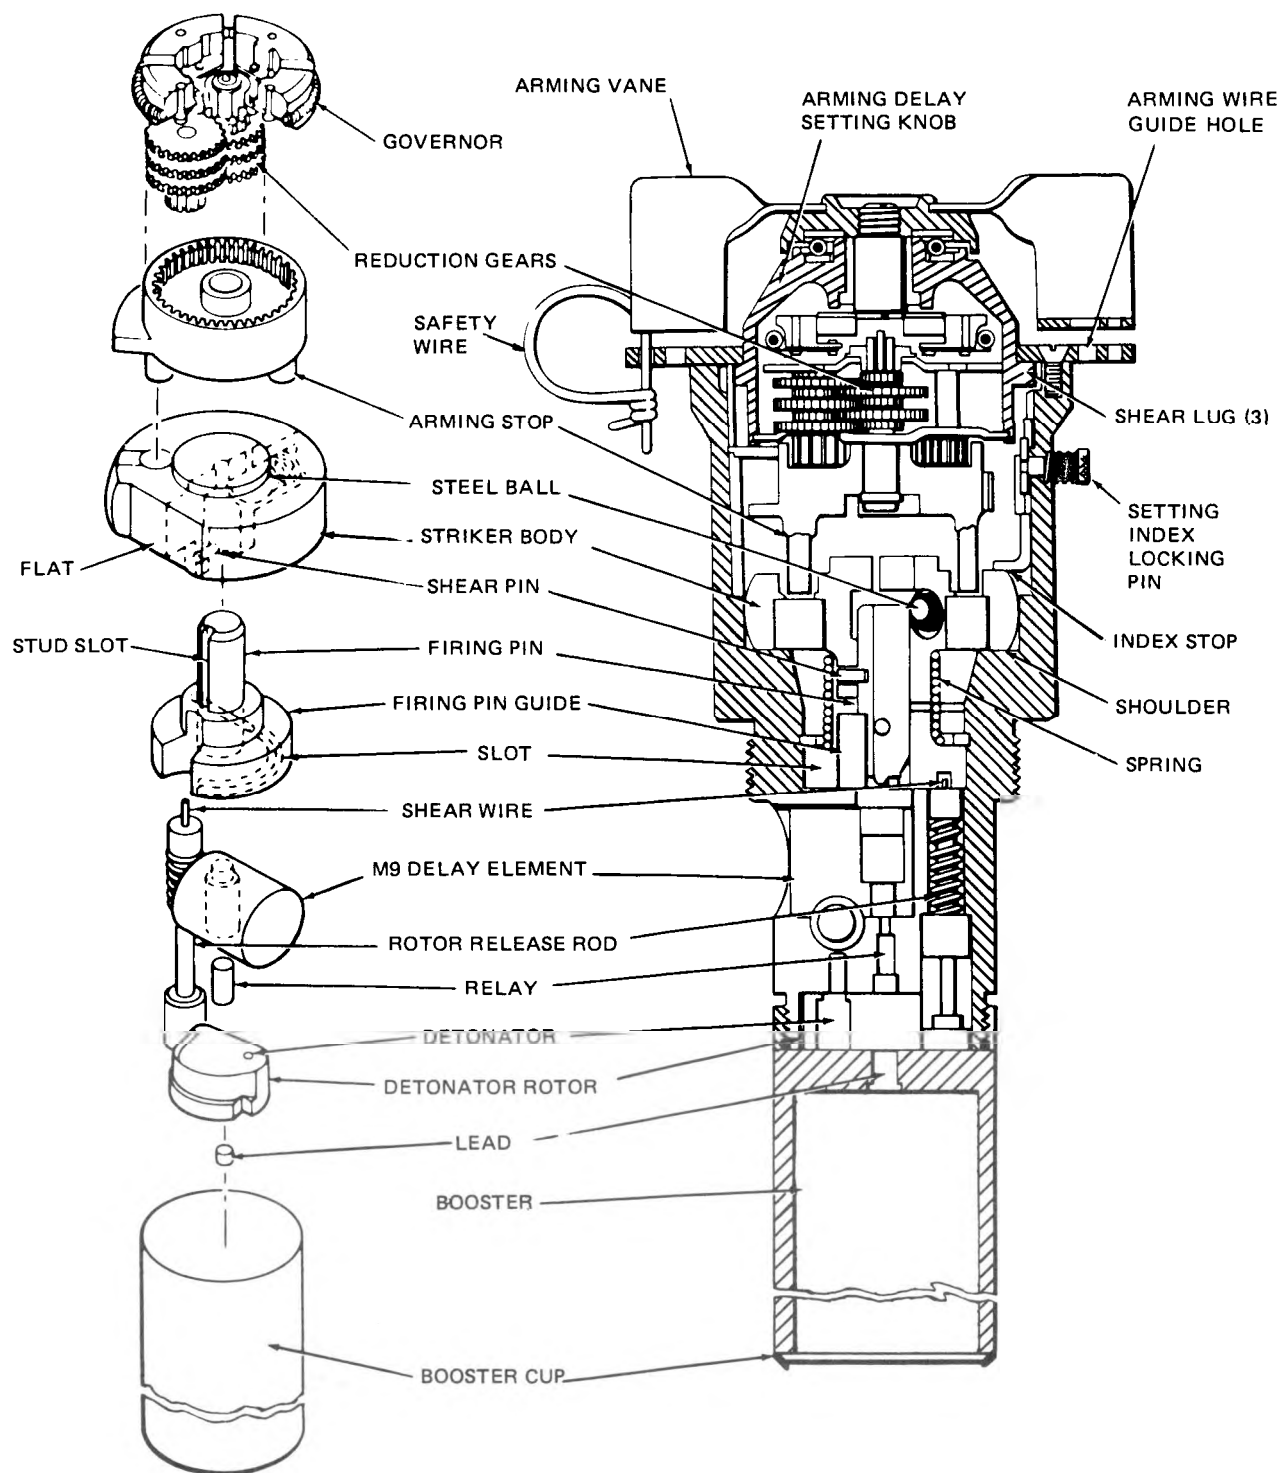

Figure 7-11. Mechanical Nose Fuze M904 Series — Exploded and Cutaway Views
7-68. The arming delay is determined by the amount of rotation required before the striker body aligns with the index stop. Before arming, the striker body is held down by the index stop bearing on its upper surface (figure 7-11). At arming, when the flat in the striker body aligns with the index stop, spring pressure forces the striker body upward against the bottom of the arming stop. Simultaneously, a shear wire on the tip of the rotor release rod breaks, allowing the firing pin to rotate until a cutout in the circumference of the firing-pin guide is aligned with the rotor release rod. When the rotor release rod is aligned with the cutout in the firing-pin guide, the rotor release rod pops up through the cutout, allowing the detonator rotor to turn. The spring pushes the steel ball over the firing pin providing a rigid connection to the striker body. The explosive detonator is now aligned with the rest of the firing train and the fuze is fully armed. The detonator rotor is held in the armed position by a spring-loaded rotary detent (not shown in the illustration).
3. Depress setting index locking pin (figure 7-11) on side of fuze body and set knurled arming delay setting knob to 18 seconds and then 6 seconds; check that upper
3. Depress setting index locking pin (figure 7-11) on side of fuze body and set knurled delay setting knob to 18 seconds, then 6 seconds; check that upper observation window shows white stripes for the M904E2 or green with white numbers 18 and 6 for the M904E3/E4. The stop screw may be reinstalled at any delay setting of 6 seconds or more.